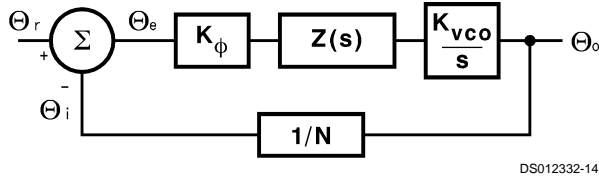
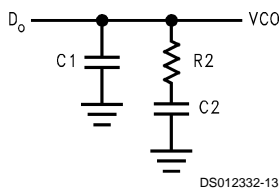

FIGURE 2. PLL Linear Model
FIGURE 3. Passive Loop Filter
A linear control system model of the phase feedback for a PLL in the locked state is shown in *Figure 2*. The open loop gain is the product of the phase comparator gain (K_ϕ), the VCO gain (K_{VCO}/s), and the loop filter gain $Z(s)$ divided by the gain of the feedback counter modulus (N). The passive loop filter configuration used is displayed in *Figure 3*, while the complex impedance of the filter is given in *Equation (2)*.